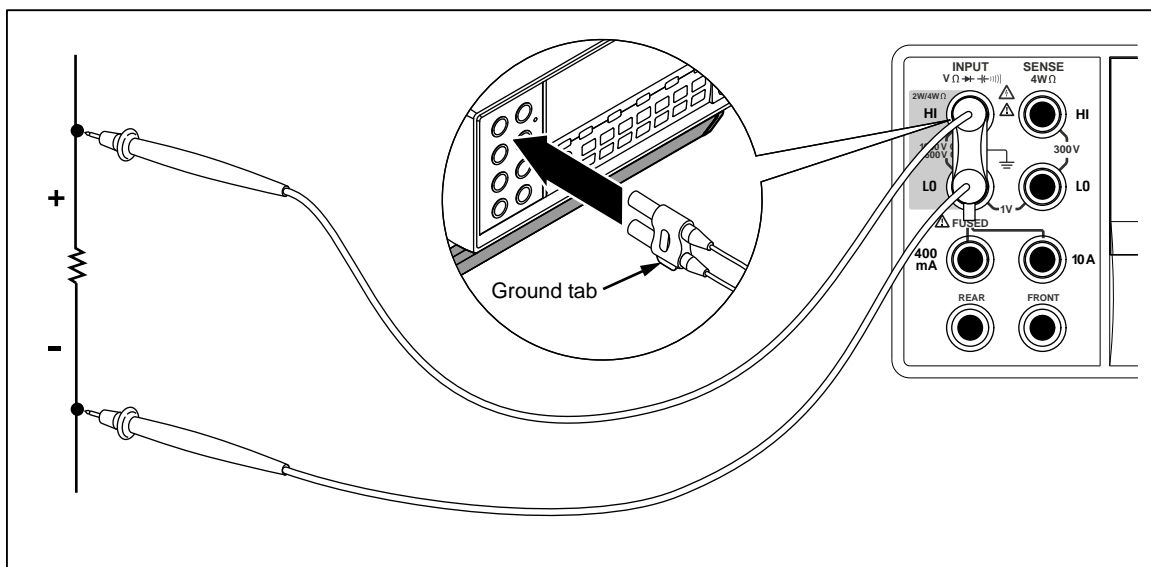

Figure 4-3. Input Connections for 4-wire Ohms Using 2x4 Wire Leads
1. Connect the test leads to the Meter's input connectors as show in Figure 4-3.